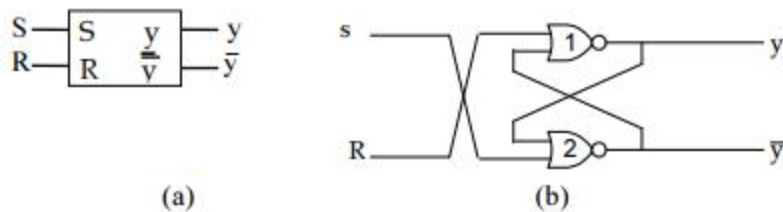

Fig. 3.6(a) : Symbol of S-R FF. Fig. 3.6(b) : S-R FF using NOR gate.
The following Fig. 3.6(a) is known as S-R flip-flop. The circuit as two input Set (S) and Reset (R) and two outputs. As the starting point, assume that  $S=0$ ,  $R=0$  and  $y=0$ . The input to the gate 2 are  $R=0$ ,  $\bar{y}=0$ , so output  $y = 1$ . The inputs to gate 1 are  $S=0$ ,  $\bar{y}=1$ , which has the output  $\bar{y} = 0$ . Now the state of the circuit is internally consistent and remains stable as long as  $S=R=0$ .
At time  $t_1$ , if S goes to 1 i.e. inputs to the gate 2 are  $S=1$ ,  $y=0$ , then after a delay of  $\Delta t_2$ , the output of gate 2 will  $\bar{y}=0$ . At this point, the input to the gate 1 become  $R=0$ ,  $\bar{y}=0$  and after another delay  $\Delta t_1$ , the output of gate 1 will be  $y=1$ . This condition is stable and FF is said to be Set. If S goes to 0, the output will remain  $y=1$ ,  $\bar{y}=0$  i.e. unchanged. When R goes to 1 and while  $S=0$ , it forces  $y=0$  and  $\bar{y}=1$  and the circuit is said to be Reset. So, this flip-flop is called Set (S) Reset (R) flip-flop. The input combination  $S=R=1$  is an indeterminate condition which gives  $y = \bar{y}=0$  and is not allowed. The S-R FF can be defined with a truth table called transition table for the various input combinations and denoting present state by  $y$  and next state by  $\bar{y}$ . (Fig. 3.6). An equation describing the relationship for the next state in terms of present inputs and present states of the FF is known as characteristics equation of the FF. The characteristics equation can be got by its K-map (Fig. 3.6(c) using transition table (Fig. 3.6(e)). The equation is